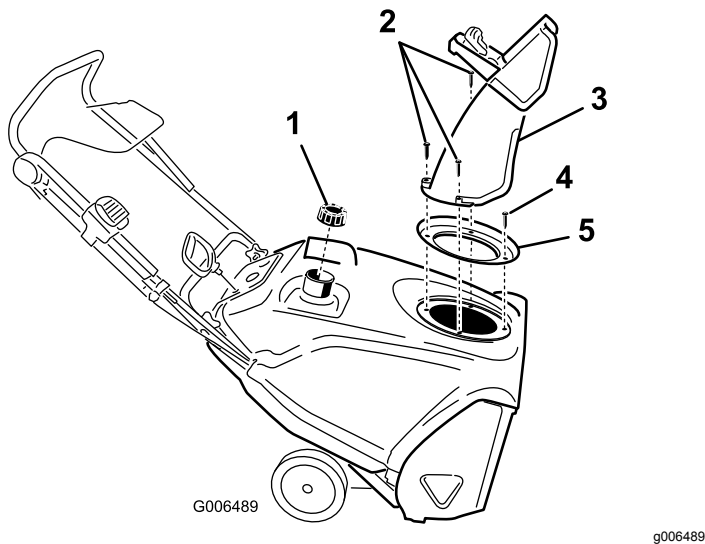

Figure 25
3. Remove the discharge chute, the discharge-chute handle, and the chute seal by removing the 3 large screws and 1 small screw (Figure 25).